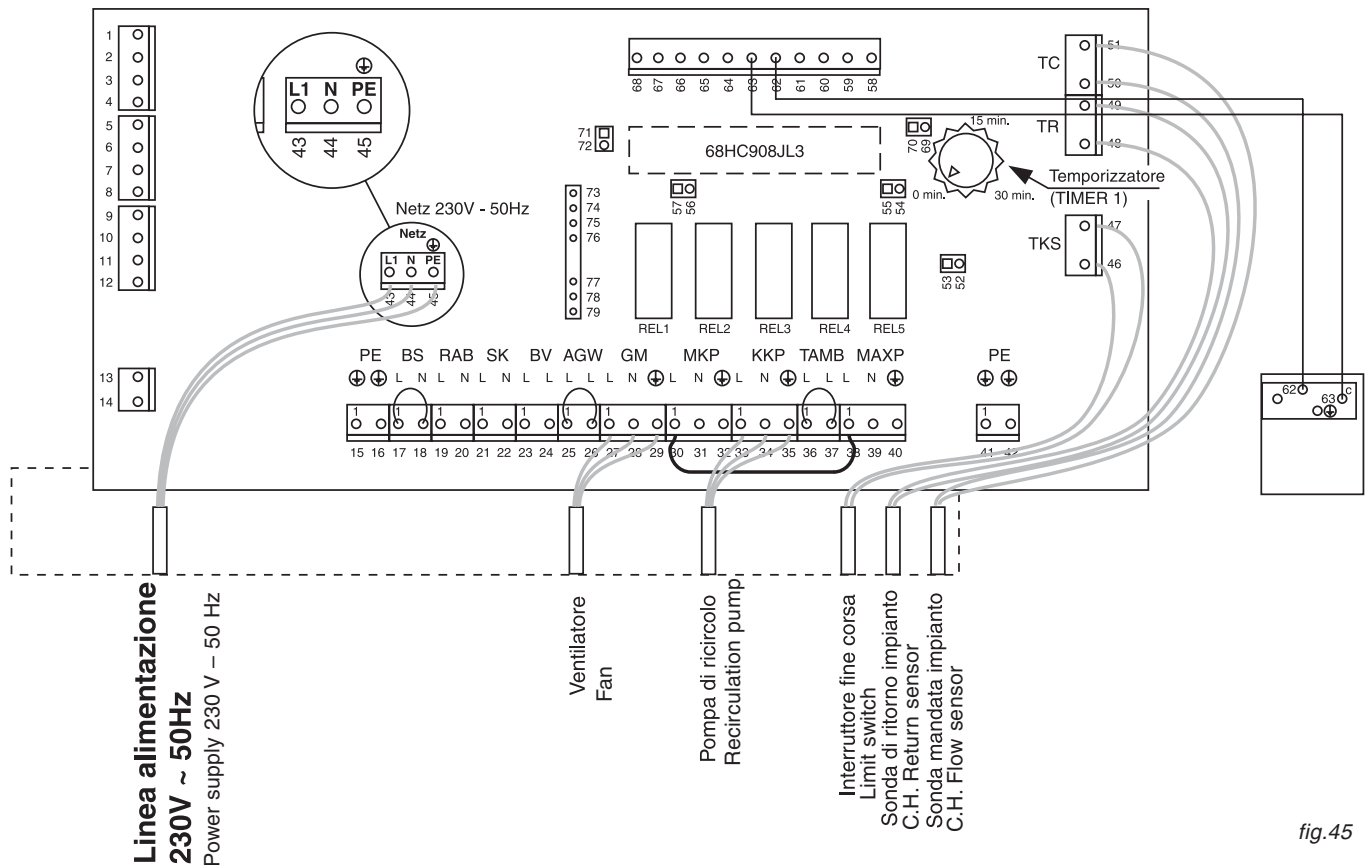

fig.45
In the Steps 4 and 6 "SPARE" is displayed: it represents the Jumper's position, as described on page 47 (pos. 56 - 57, fig. 45).